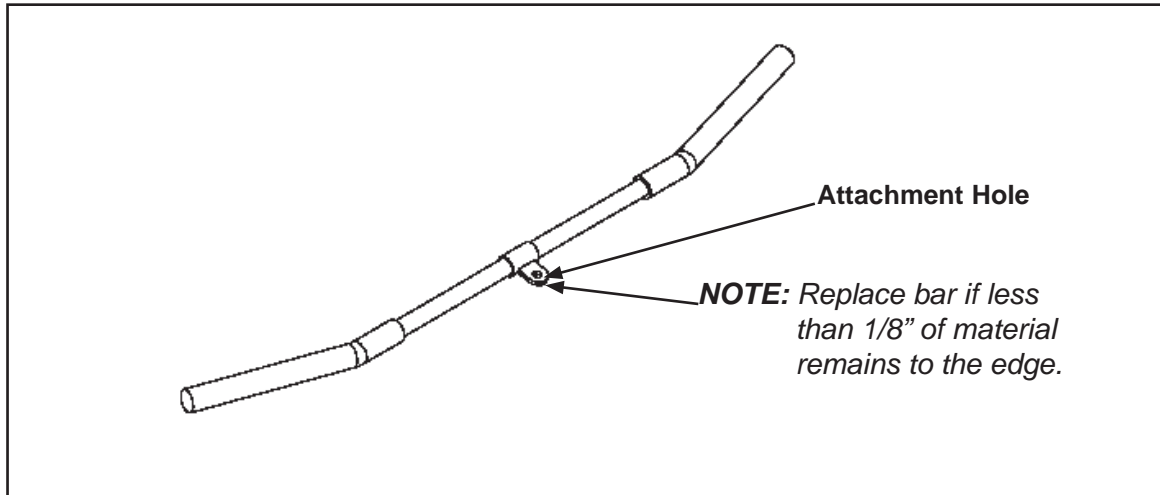

Figure 5
**CAUTION:** Replace all worn handles immediately. Do not use if less than 1/8" of material remains to the edge. See Figure 5.